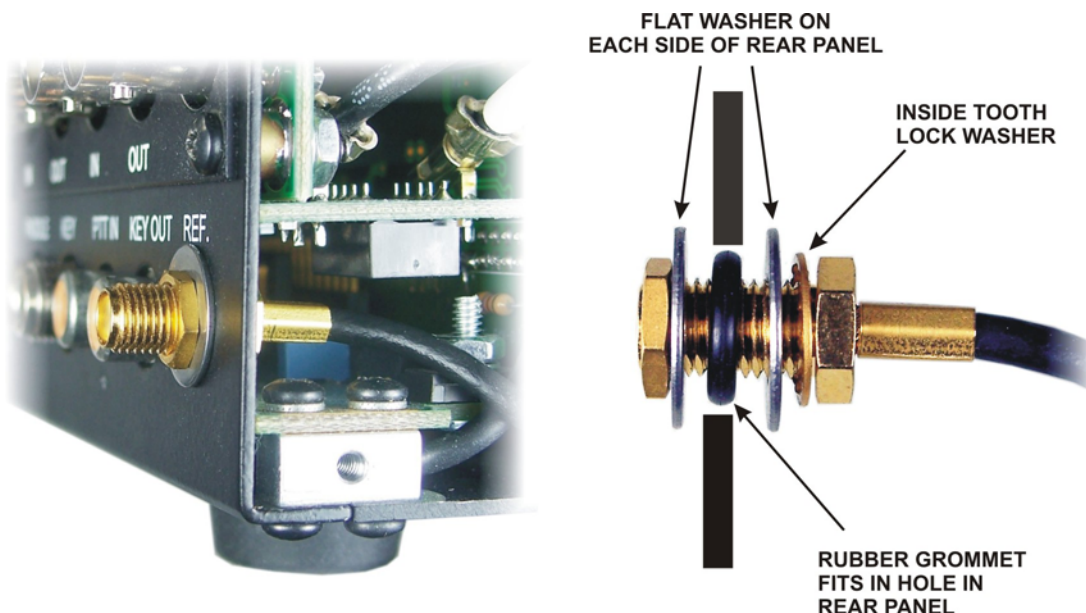

Figure 3. Mounting the SMA connector.
- ☐ Install the SMA connector in the REF. hole as shown in Figure 3. Note that the rubber grommet fits inside the rear panel hole to center the connector.